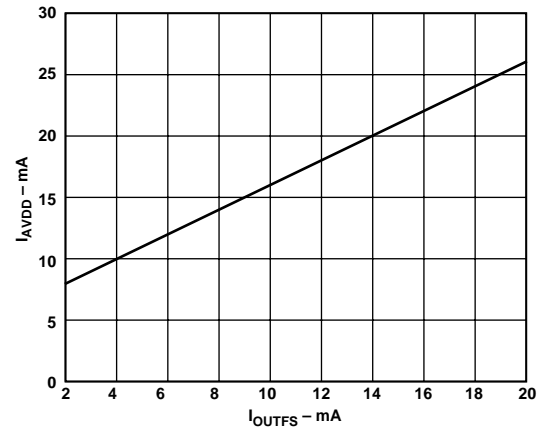

Figure 30. IAVDD vs. IOUTFS
The power dissipation, PD, of the AD9764 is dependent on several factors, including: (1) AVDD and DVDD, the power supply voltages; (2) IOUTFS, the full-scale current output; (3) fCLOCK, the update rate; and (4) the reconstructed digital input waveform. The power dissipation is directly proportional to the analog supply current, IAVDD, and the digital supply current, IDVDD. IAVDD is directly proportional to IOUTFS, as shown in Figure 30, and is insensitive to fCLOCK.